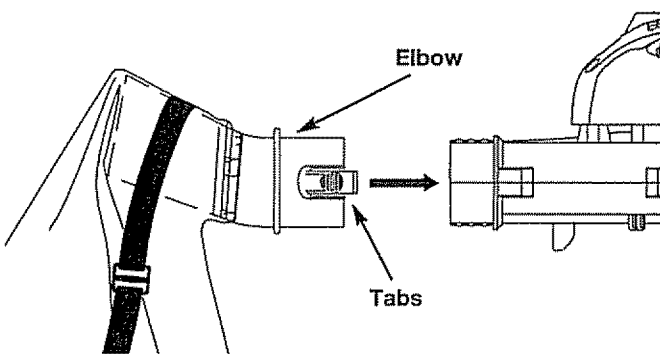

Fig. 6
5. Install the vacuum bag tube over the blower outlet and push on until both tabs snap into place (Fig. 6). Position so the elbow inside the bag slants upwards.
1. Remove the vacuum bag by pressing both tabs on the vacuum bag elbow at the same time and pulling off the blower (Fig. 6).